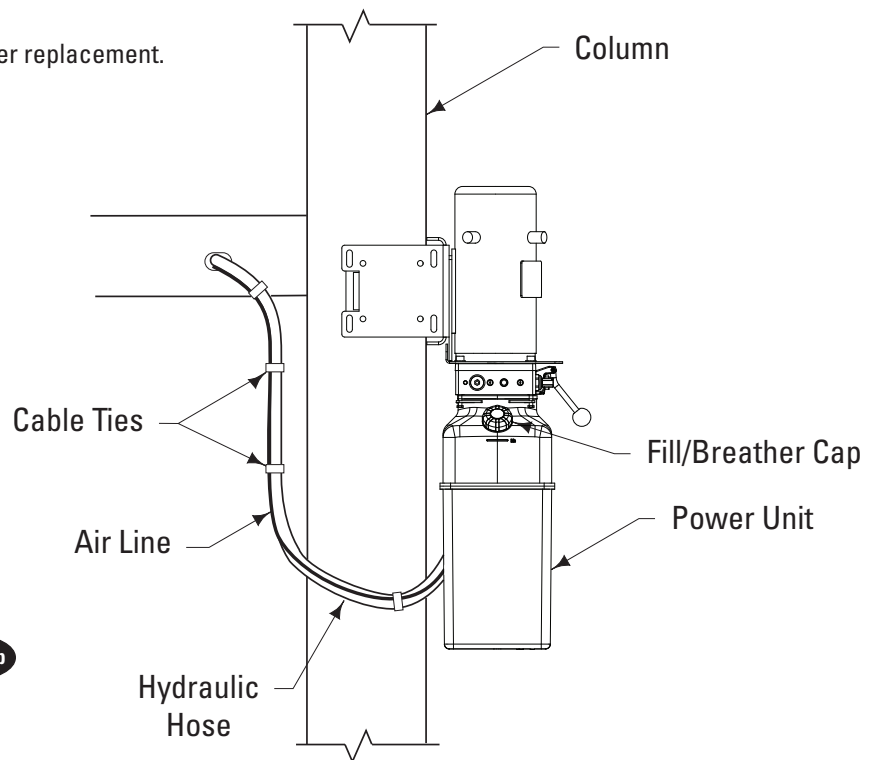

Fig. 25b
20. **Hydraulic Fluid Filling:** System capacity is thirteen (13) quarts. Use Dexron III ATF. Remove fill/breather, Fig. 25b. Pour in thirteen (13) quarts of fluid. Replace fill/breather. Start motor and raise lift to full rise. Lower onto latches.
Note: If fill/breather, Fig. 25b, is lost or broken, order replacement.